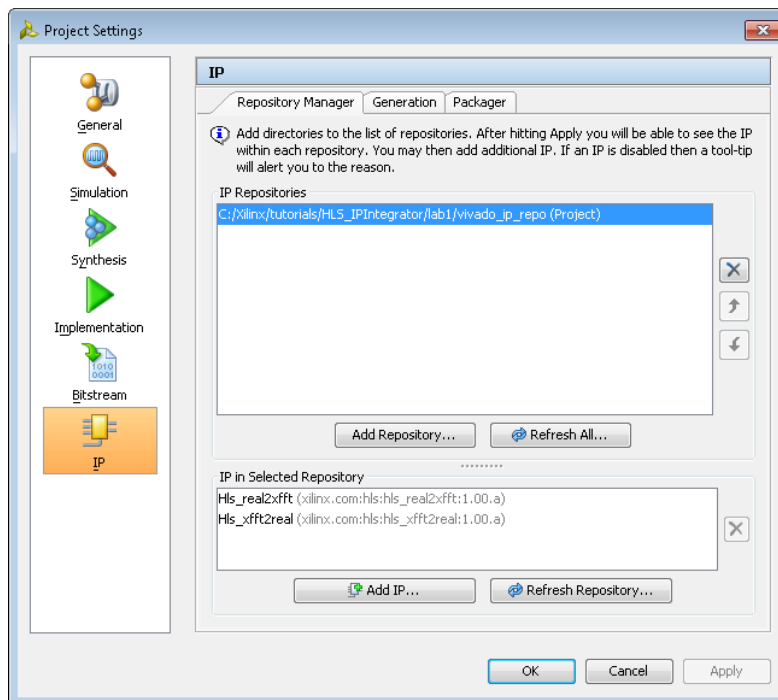

Figure 193: IP Repository with HLS IP
7. The new HLSIP should now show up in the IP Setting dialog (**Figure 193**).